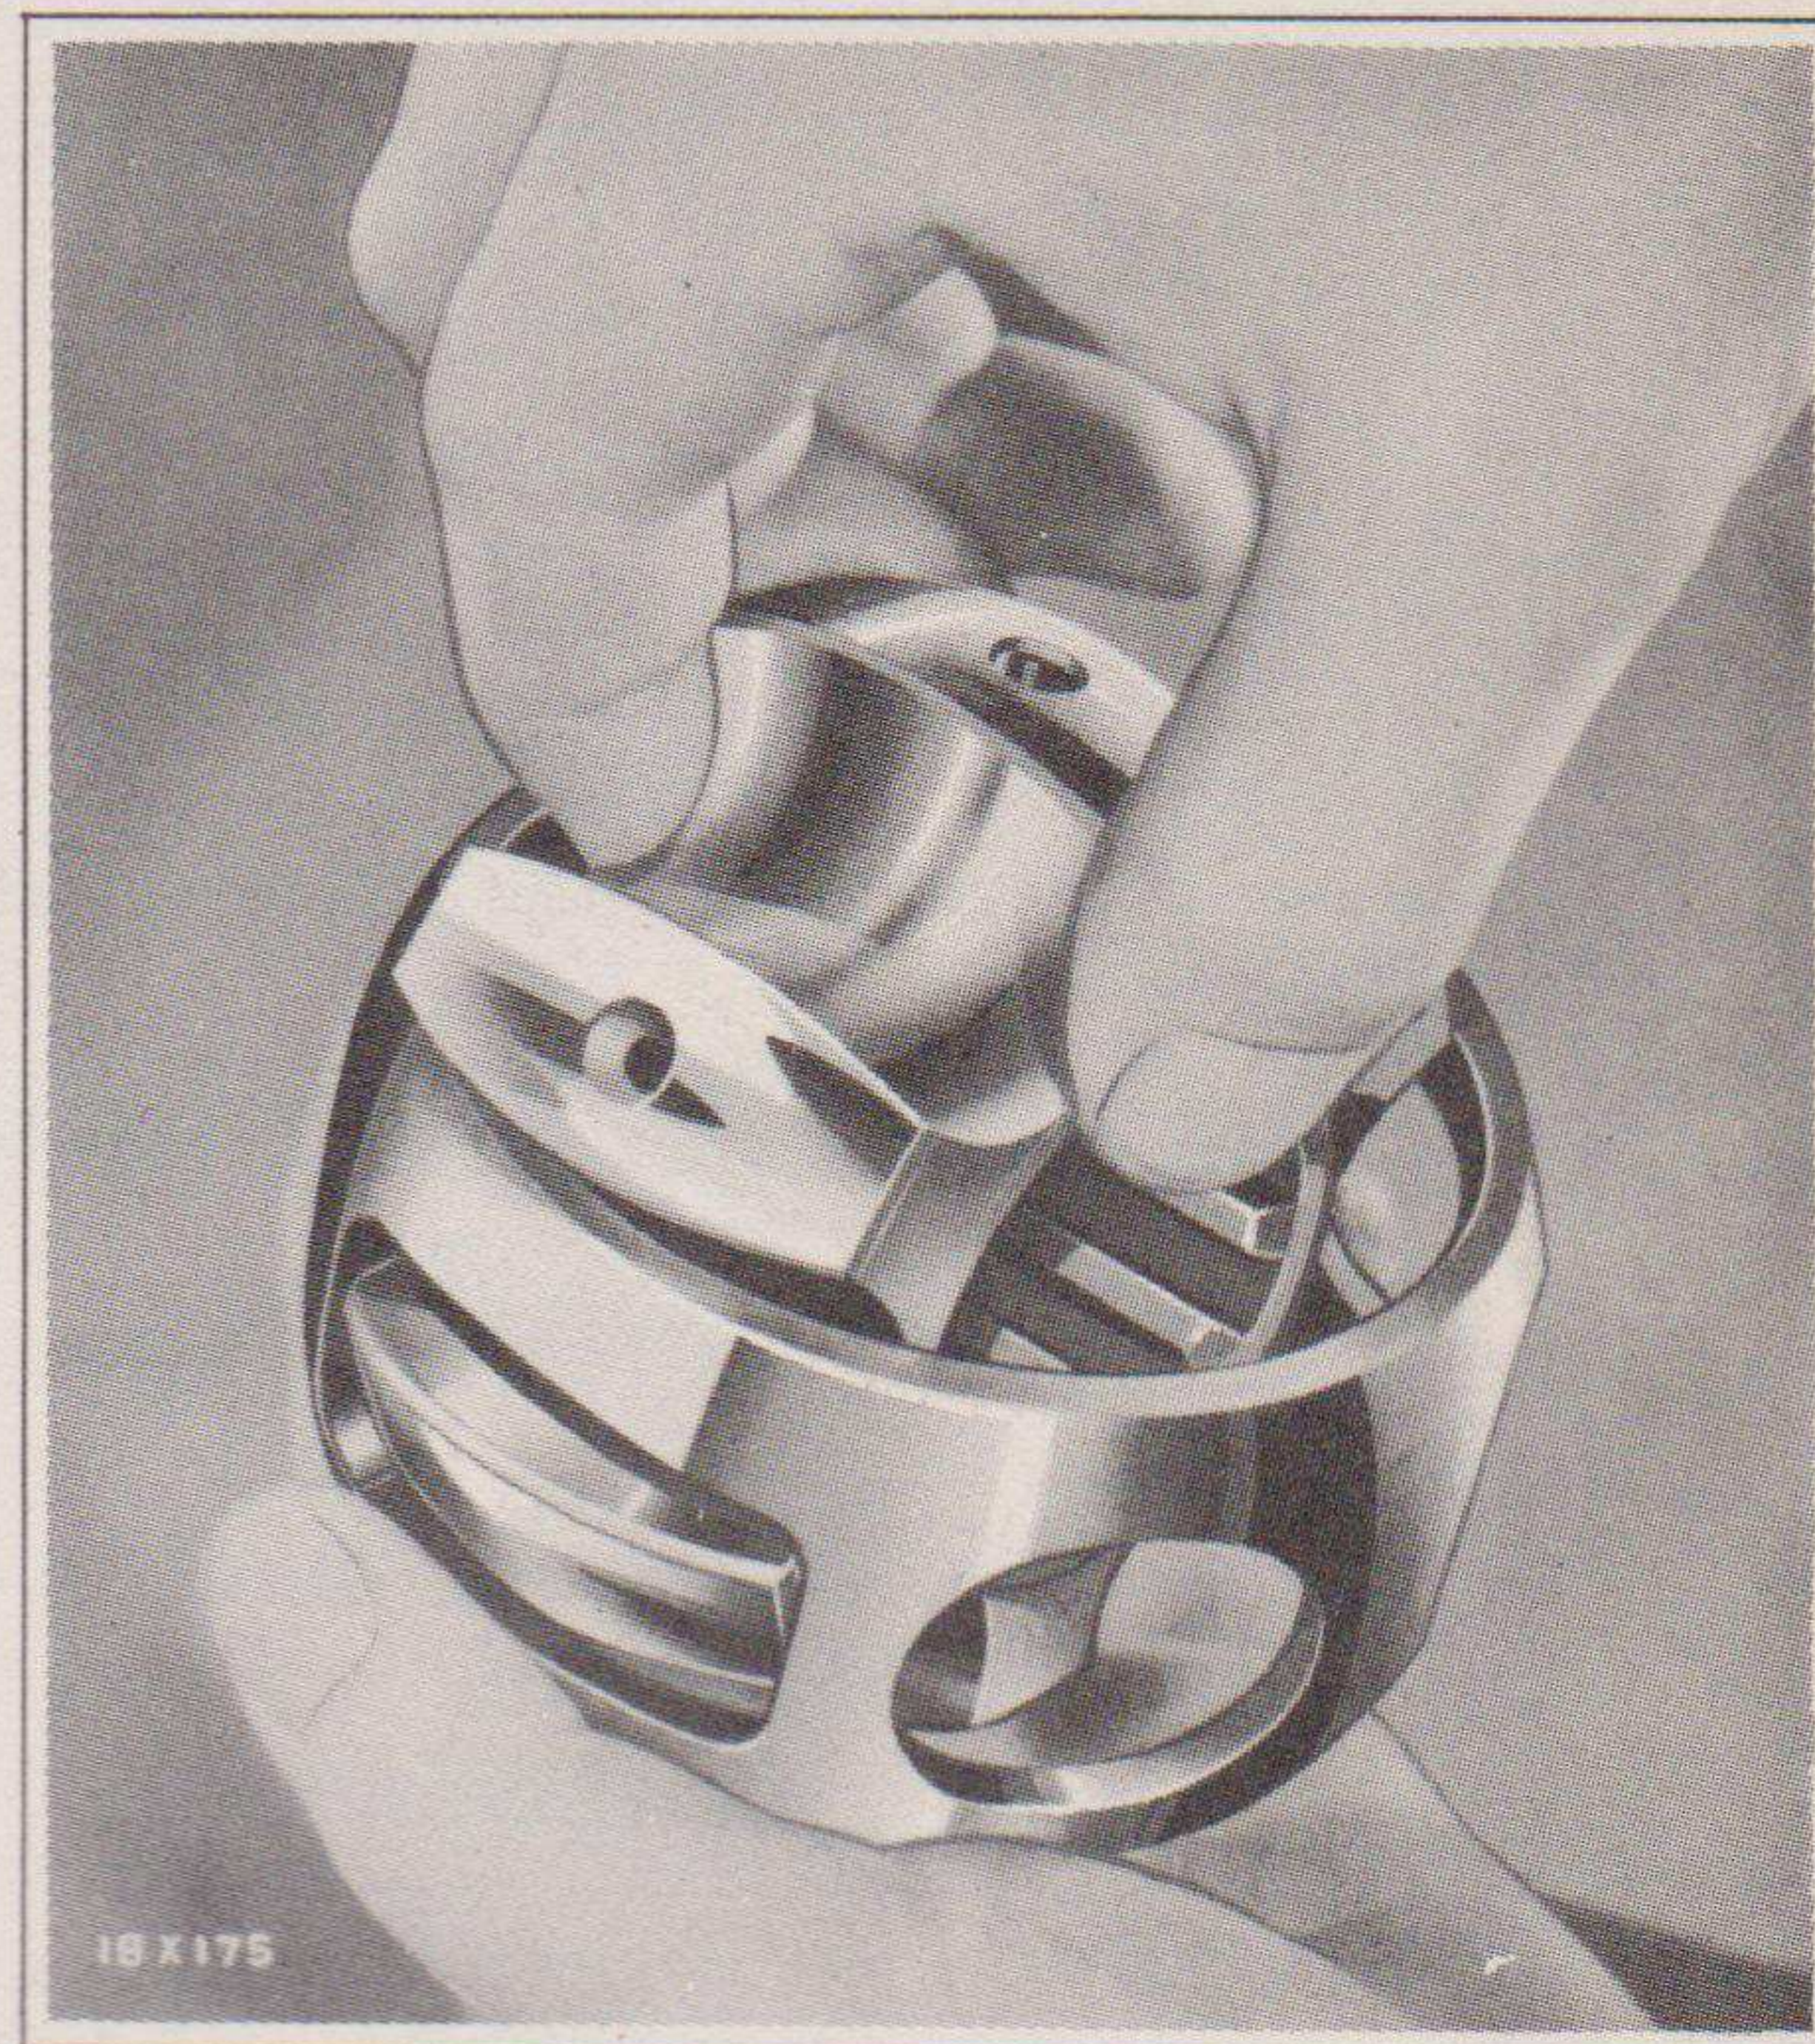

Fig. 26—Removing Universal Drive Inner Race from Ball Cage (Rzeppa)
- (i) Rotate the inner ball race within the ball cage to bring any two opposite ribs on the race in line with the two elongated slots in the cage. Then move the race slightly in one of the slots in the cage and turn the race out of the cage as shown in Fig. 26.